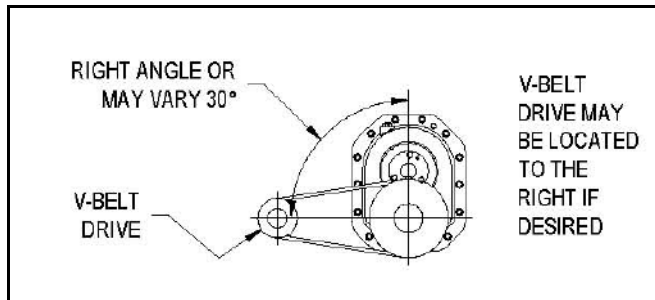

Figure 3.11 Angle of V-Drive
5. If not using a Dodge Torque-Arm II motor mount, install motor and V-belt drive so belt will approximately be at right angles to the centerline between driven and input shaft. (See Figure 3.11) This will permit tightening the V-belt with the torque arm.
7. Install torque arm on reducer and equipment using hardware provided. (See Figure 3.11 & 3.12) Make sure that there is sufficient take-up in the turnbuckle for belt tension adjustment when using V-belt drive.